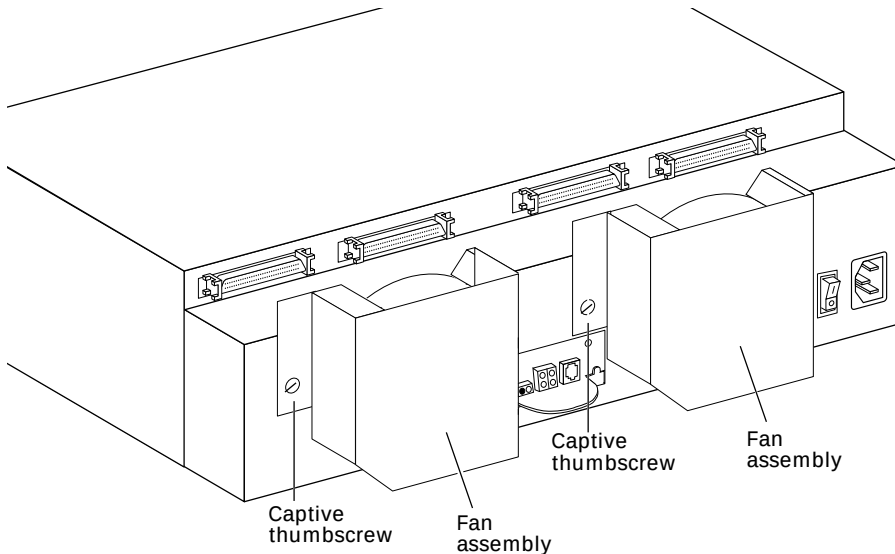

Figure 4-1. Removing a fan assembly
1. Loosen the captive thumbscrew that secures the fan to the disk shelf (see Figure 4-1).